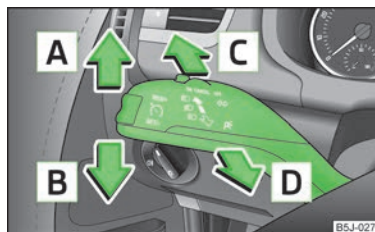

Fig. 26
- Pull the turn signal light lever » Fig. 26 on page 42 upwards or downwards - the side light on the right or left side of the vehicle is switched.
- > Push the lever » Fig. 26 upwards or downwards .
- > Press the lever » Fig. 26 in the direction of arrow .
- > Pull the lever » Fig. 26 towards the steering wheel (spring-tensioned position) in the direction of arrow - the main beam and the warning light in the instrument cluster come on.